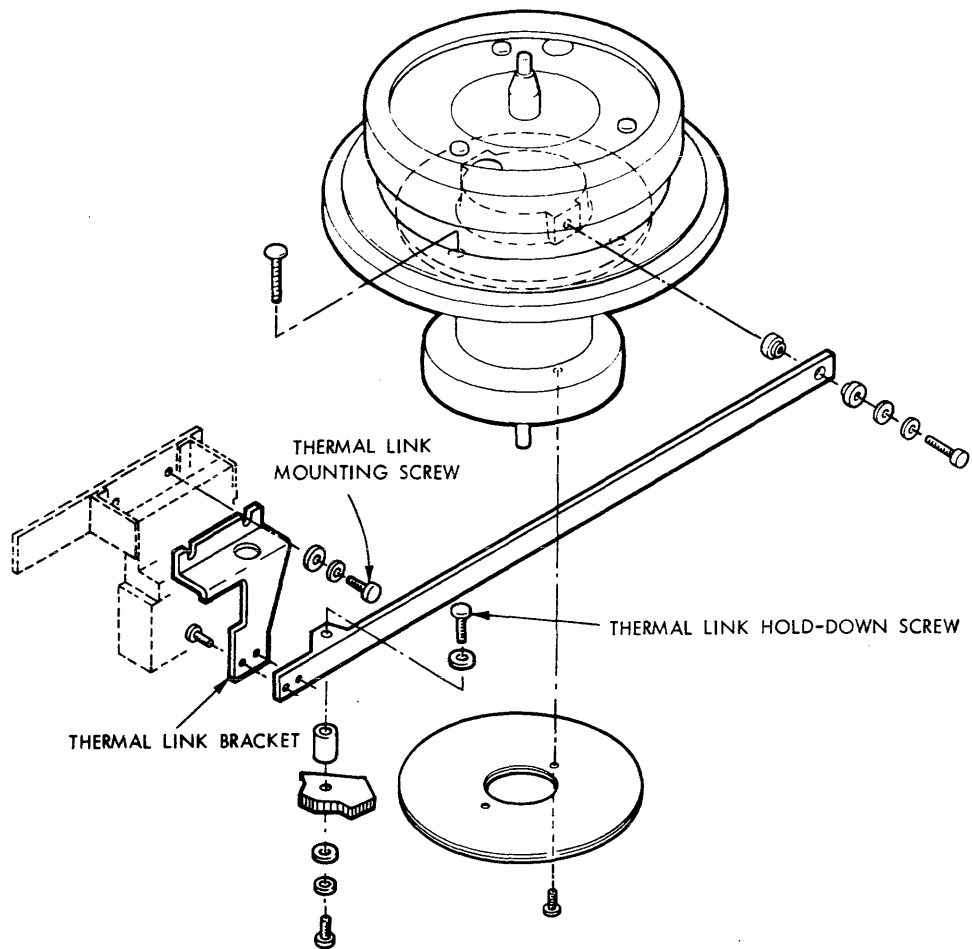

Figure 3-11. Thermal Link Removal and Replacement
13. Loosen two screws in thermal link bracket (figure 3-11).
2. Verify that thermal link bracket is flush with top of transducer scale. If not, adjust thermal link hold-down screw (figure 3-11).